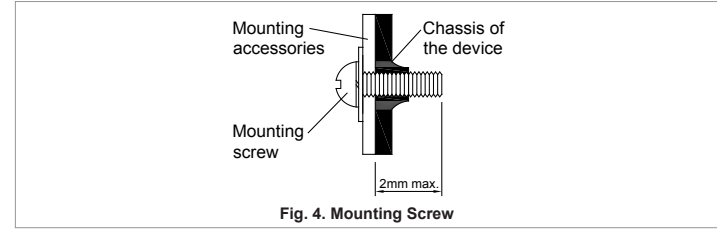

Fig. 4. Mounting Screw
- Refer to Fig. 4.: Recommended mounting tightening torque: 4~8 Kgf.cm